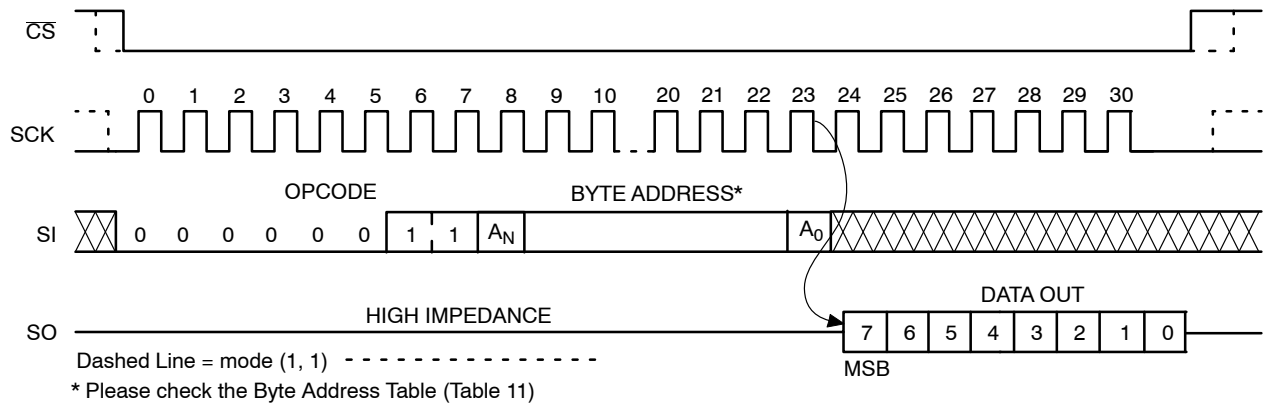

Figure 9. READ Timing
After receiving the last address bit, the CAV25256 will respond by shifting out data on the SO pin (as shown in Figure 9). Sequentially stored data can be read out by simply continuing to run the clock. The internal address pointer is automatically incremented to the next higher address as data is shifted out. After reaching the highest memory address, the address counter “rolls over” to the lowest memory address, and the read cycle can be continued indefinitely. The read operation is terminated by taking  $\overline{\text{CS}}$  high.
Reading the additional 64-byte Identification Page (IP) is achieved using the same Read command sequence as used for Read from main memory array (Figure 9). **The IPL bit from the Status Register must be set (IPL = 1) before attempting to read from the IP.** The [A5:A0] are the address significant bits that point to the data byte shifted out on the